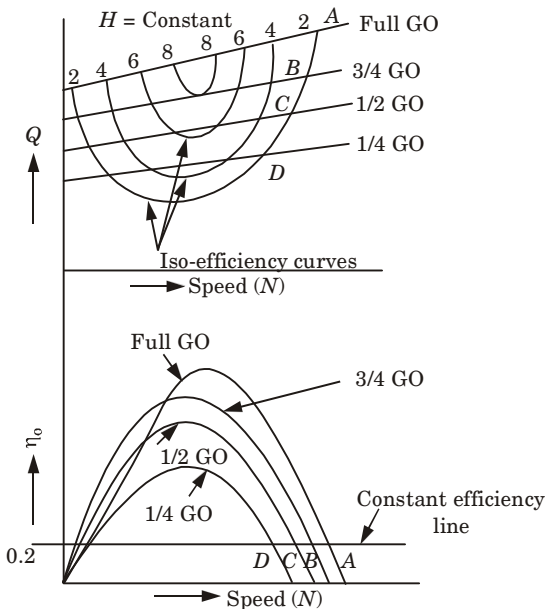

Fig. 4.36.4. Constant efficiency curves.
2. A constant efficiency curve is shown in Fig. 4.36.4.